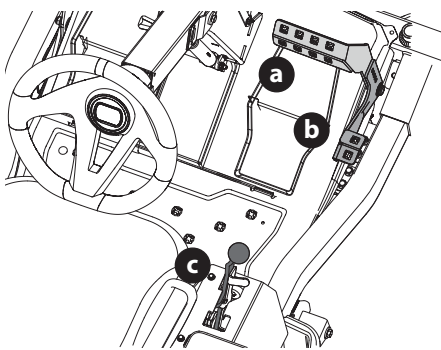

Fig. 22
2. To travel FORWARD, slowly press the forward drive pedal (a) forward until the desired speed is achieved (Fig. 22).
3. To stop or slow down the tractor, take your foot off of the forward (a) or reverse (b) drive pedal. To lock the parking brake, place drive control pedals in neutral and pull the park brake lever (c) back until it locks into the "on" position (Fig. 22).
4. To travel in reverse, check that the area behind is clear then slowly push down on the reverse drive pedal (b) with the ball of your foot (NOT your heel) until the desired speed is achieved (Fig. 22).